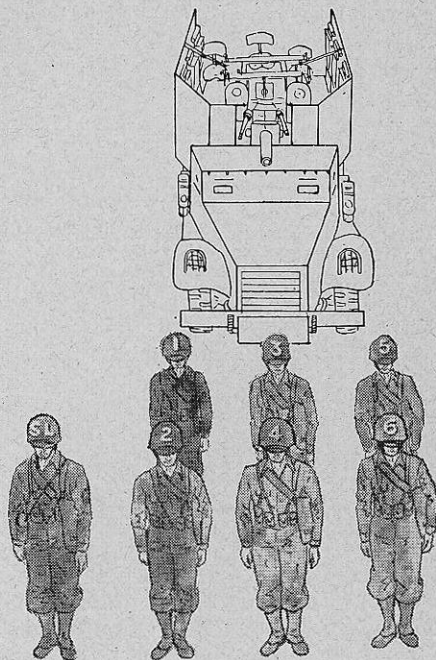

FIGURE 2.—Automatic weapons squad.
■ 4. GENERAL.—The automatic weapons squad is composed of seven enlisted men. The squad leader, who is a corporal, commands the squad. The lead setter (gunner) is second in command of the squad. Two gun pointers, two cannoneers, and the driver make up the balance of the squad (fig. 2).